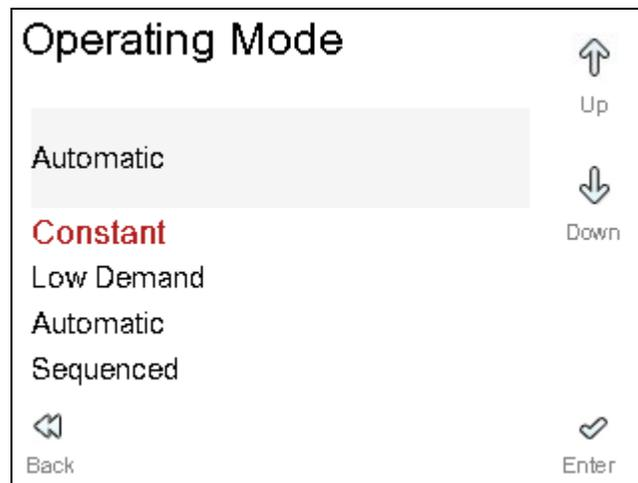

Figure 3-8: Operating Mode Menu
3. Press the *Enter* button. The *Operating Mode* menu will appear as illustrated by Figure 3-8.